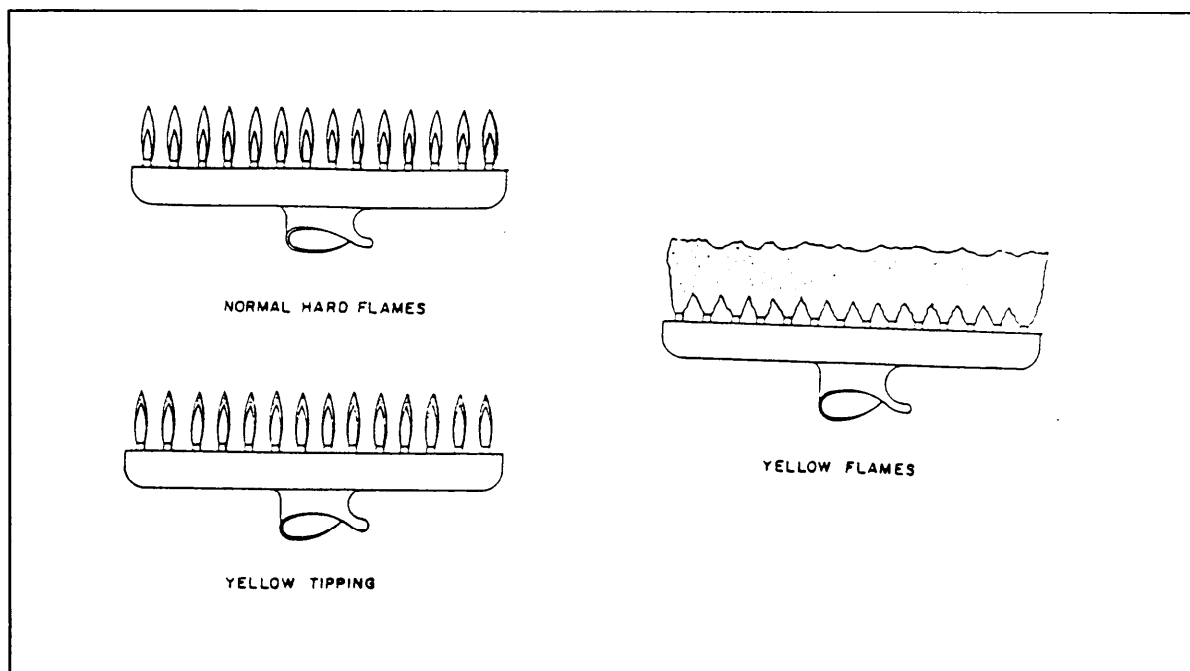

Figure 8
5.2 Gas Appliances. Gases used in appliances include natural, manufactured, propane, and butane. Reference manufacturers' literature for the specific gas types, pressures, orifice model/size, and air mixture requirements to achieve proper cooking results. Refer to Figure 8.